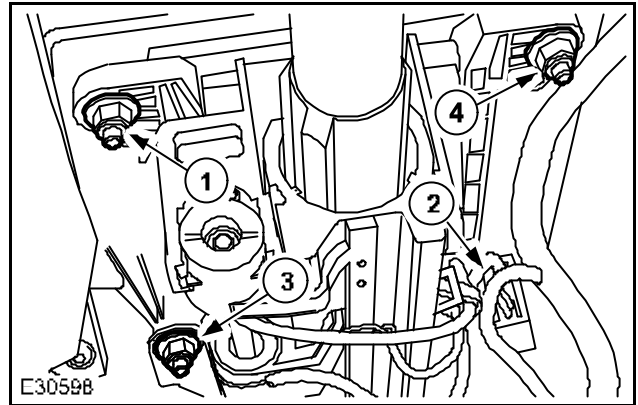

Fig. 5
- 10 Install steering column to body securing nuts and tighten to 25Nm in sequence shown. (See Fig. 5)